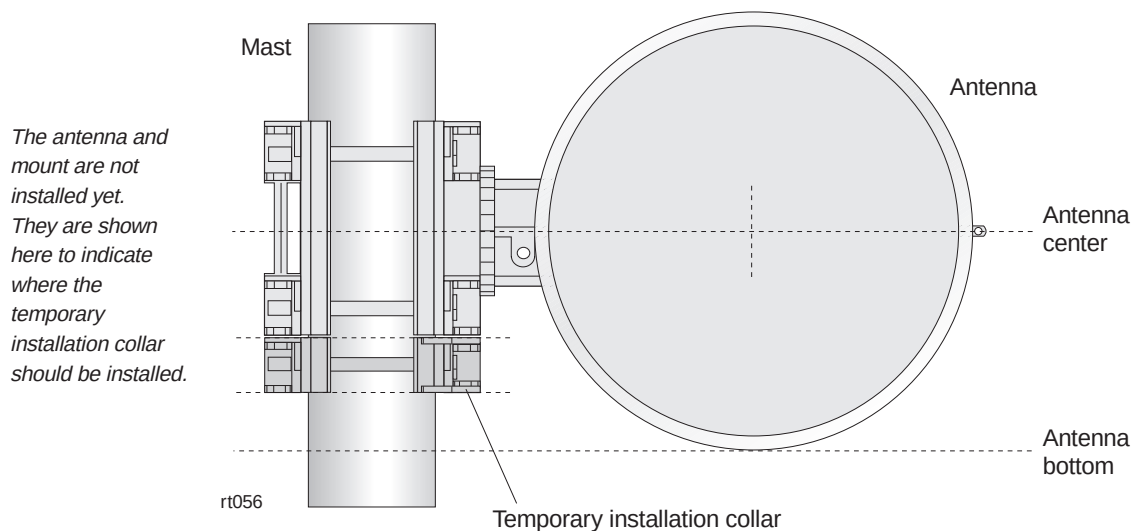

Figure 6-5 Collar height relative to desired antenna height
- b. Refer to figure 6-5 for the collar position relative to the installed antenna position.
As shown in figure 6-5, when the antenna is installed (later), the top of the collar is below the antenna center and above the bottom of the antenna.